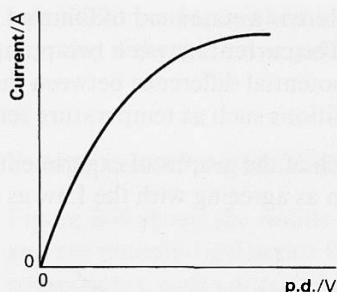

Figure B61
- c** There are materials (thyrite, metrosil) for which the current–p.d. graph is curved as in figure B61, even though they do not become hot during the experiment. In the light of this fact and of what you already know, what do you think of the following statements?